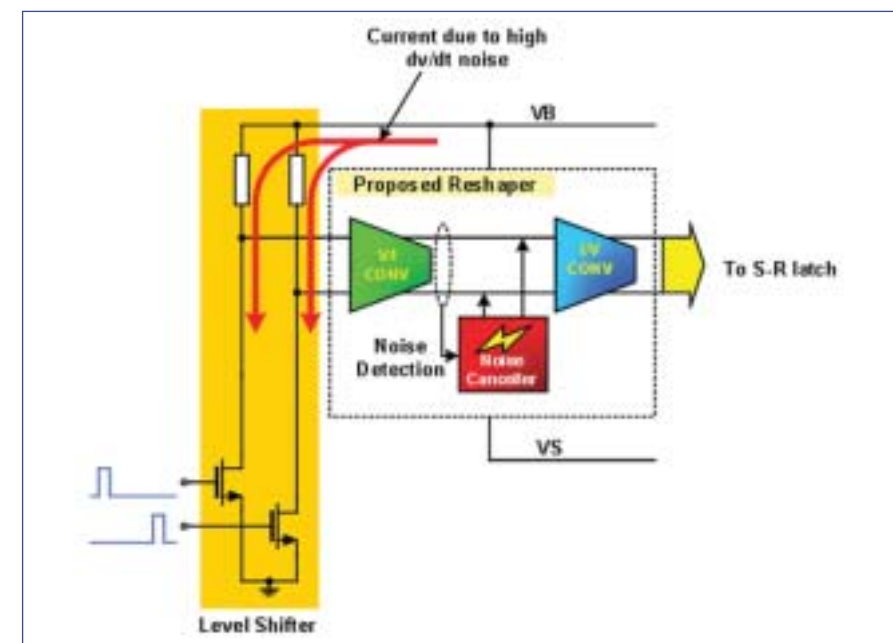

Figure 4. Proposed reshaper configuration which provides a noise-canceling function and enhances allowable negative V_S range.
Today there are two goals to achieve with the HVIC: (1) to enhance the noise immunity for the high dv/dt noise, and (2) to extend allowable negative V_S voltage. To achieve these goals, a new reshaper circuit is proposed (as shown Figure 4.) As explained previously, the allowable negative V_S limitation comes from the predetermined threshold level of the reshaper. It is needless to say that it is possible to increase that limitation by increasing V_{TH} level.